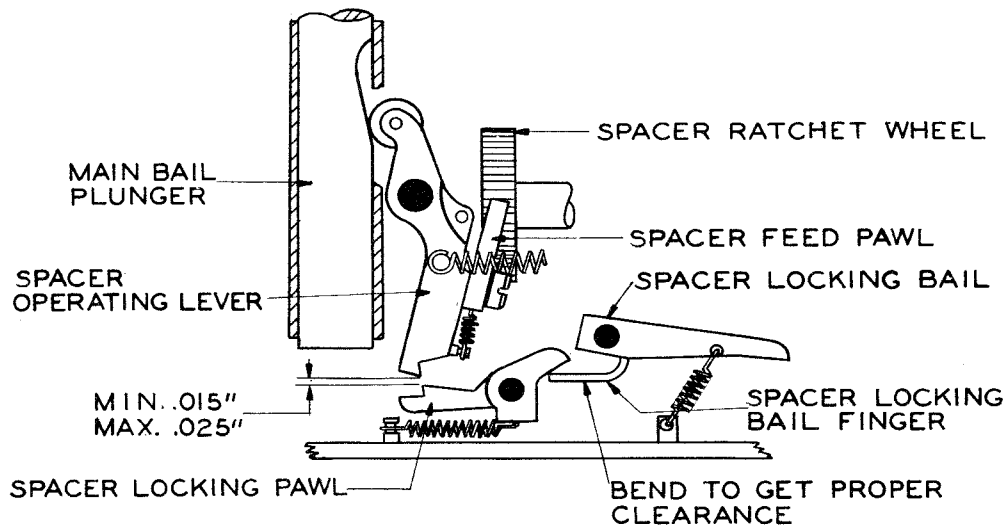

Figure 13
2.23 Spacer Locking Bail Finger: With the E combination set up and the main shaft rotated until the two edges are in line, there shall be minimum 0.015 inch, maximum 0.025 inch clearance between the latching edge of the spacer operating lever and the latching edge of the spacer locking pawl. (See Figure 13.)